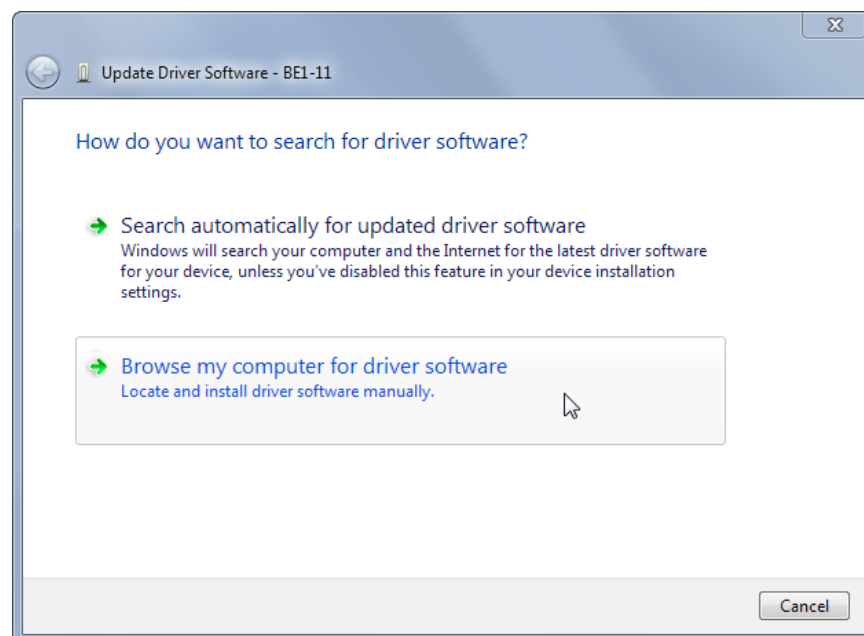

Figure 73-4. Update Driver Software - BE1-11
Step 4. Select Browse My Computer for Driver Software as shown in Figure 73-4.